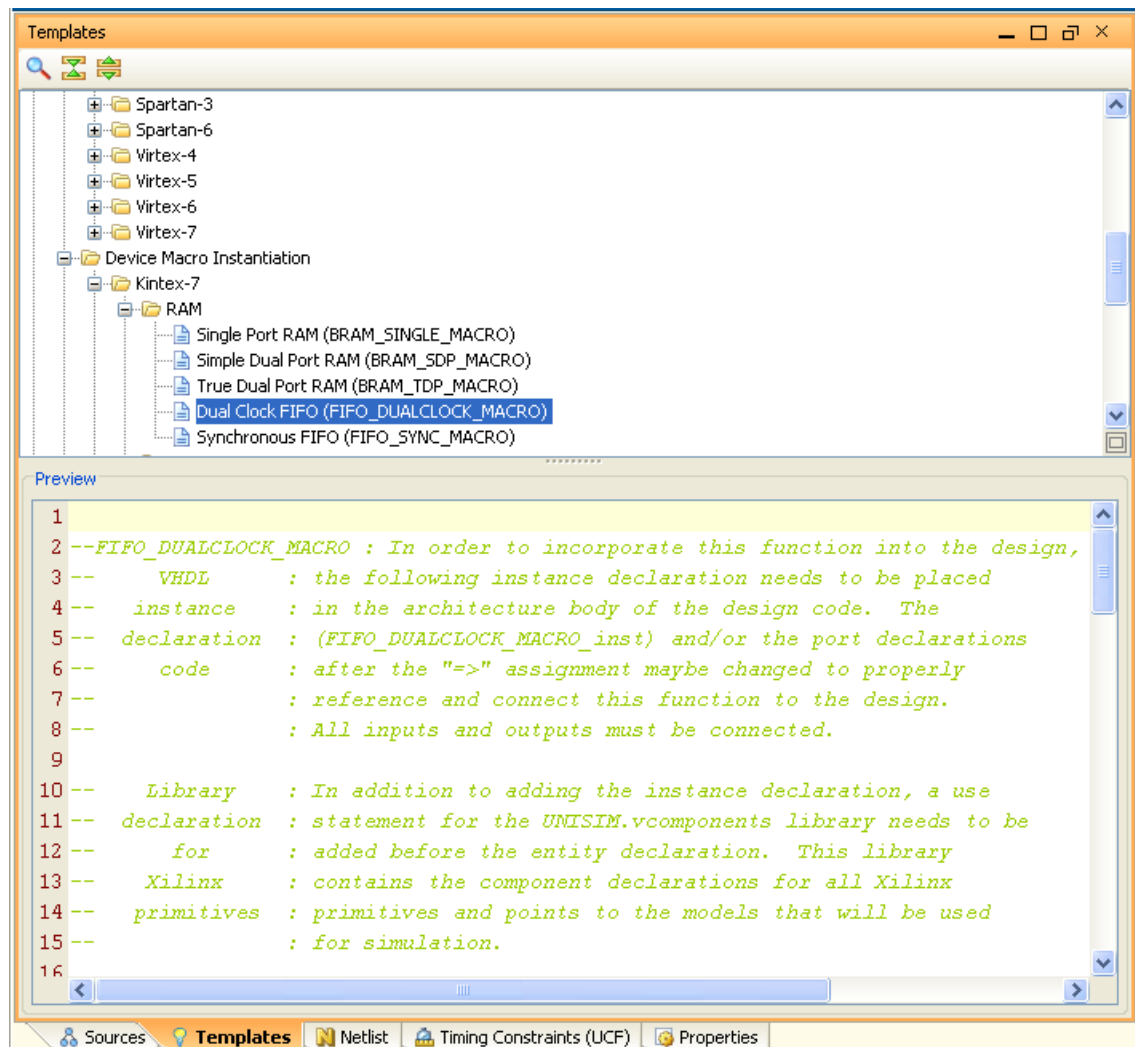

Figure 4-68: Xilinx Language Templates
The PlanAhead tool provides standard Verilog and VHDL language templates and UCF constraint templates for use with the Text Editor to quickly define certain logic constructs or design constraints. Selected templates can be instantiated into any file that is open in the Text Editor. Figure 4-68 shows the Template view with a selected language template.
2. Browse and select a template from the VHDL, Verilog, or UCF hierarchy in the Template view. Figure 4-68 shows an example of a Xilinx-supplied templates.